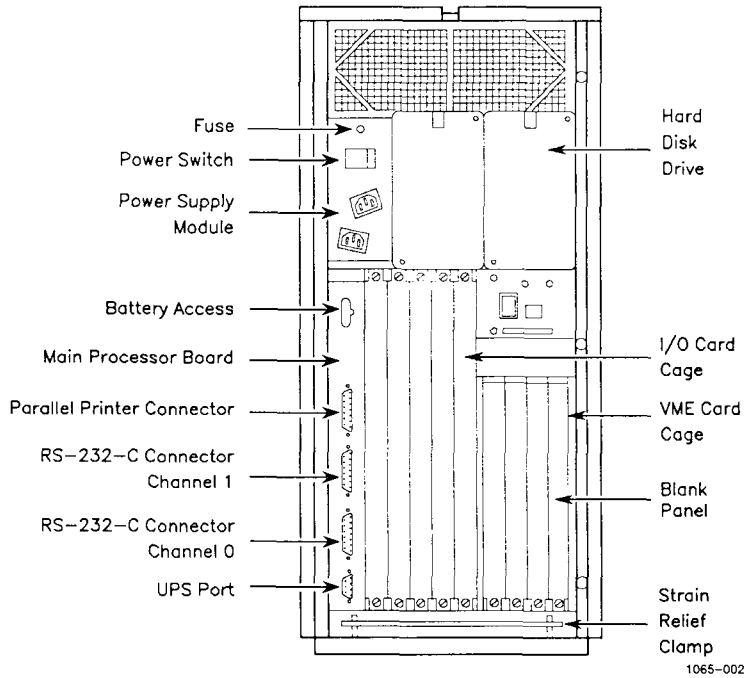

Figure 2-2. Rear Inside View (S/320)
1. Open the rear door. The door should open smoothly and extend until it is perpendicular to the cabinet. (See Figures 2-2 and 2-3.)